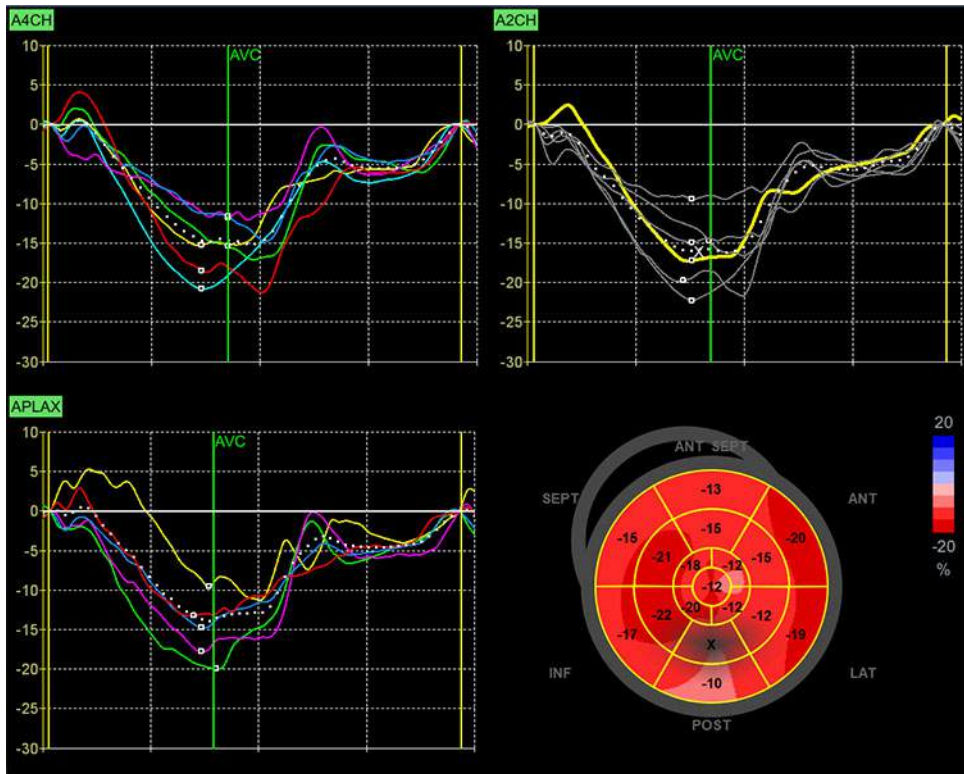

Figure 8-21. Bull's Eye and Traces screen
1. Press **BE+Traces**. The *Bull's Eye and Traces* screen is displayed (see Figure 8-21)
or clicking the corresponding segment in the Bull's eye (Figure 8-21).